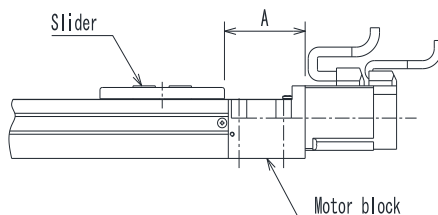

Fig. 6.4-3
- (4) Temporarily connect the actuator and controller, connect the teach pendant with the controller, then turn the power on. For how to connect, see Para. 2.5.4 of the instruction manual (basic) provided separately.
- (5) Set the servo gain values (position and speed) of Parameter 1 to zero (0). For the setting procedures, see Para. 13.3.3, 13.3.4 of the instruction manual (basic).
- (6) Specify "3" for the home return method of Parameter 2.
- (7) Execute the home return. After the motor has stopped, move the slider end manually to the position "A" mm away from the motor block end surface. (See Fig. 6.4-3.)
- (9) Turn the power on again, return the servo gain values (position and speed) to the previous values, then specify "2" for the home return method of Parameter 2.
- (10) After the power is turned off, then on again, execute the home return and make sure that the actuator is as shown in Fig. 6.4-3.
- (11) Reassemble the stainless sheet in Step (3) above as originally set. The stainless sheet should be stretched straight not to cause a sag.